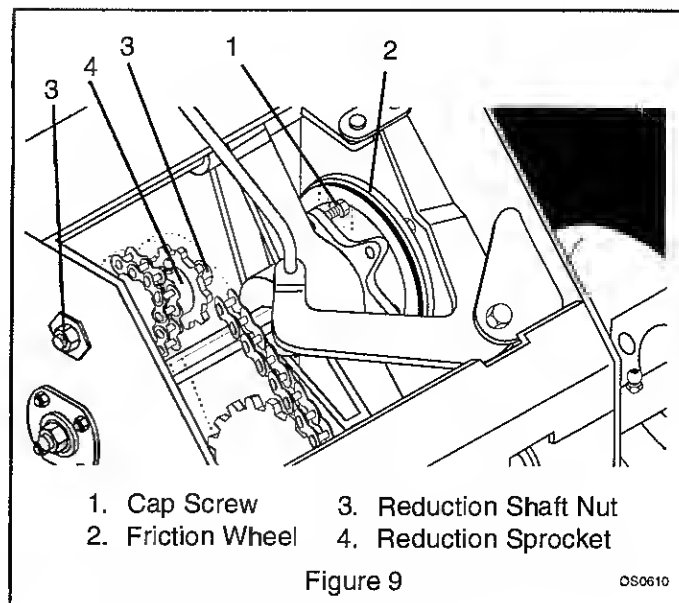

Figure 9
3. Place Speed Selector in first "1" position, depress Traction Clutch Lever to hold friction wheel and hub. Release traction clutch lever, remove cap screws (Figure 9), shift to third "3" position, and remove friction wheel.